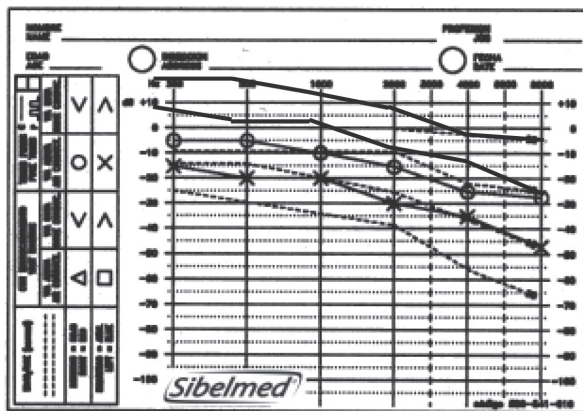

Fig.1.5.5.
6. As hearing thresholds are being found they should be noted down according to the normalized notation and colours code, as the graph shows. Finally, they should be joined together by a line for each ear. Fig. 1.5.5.